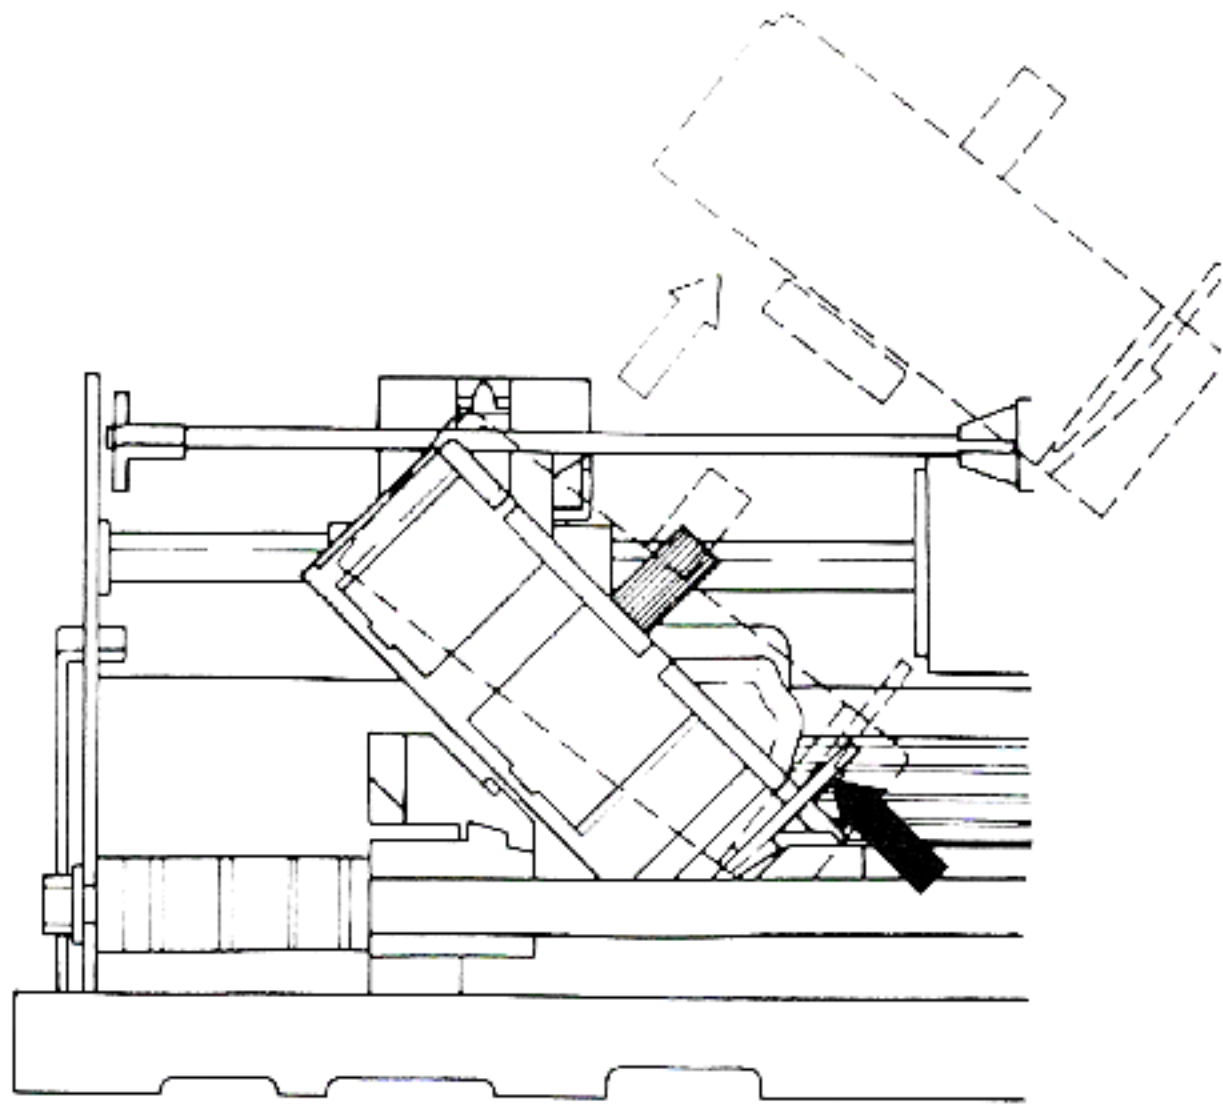

Figure 6
g) Figure 6 illustrates a front view of the ribbon cassette installation. The white arrow shows the direction for putting the cassette on the carrier, and the black arrow shows where to press in order to snap the cassette into position.